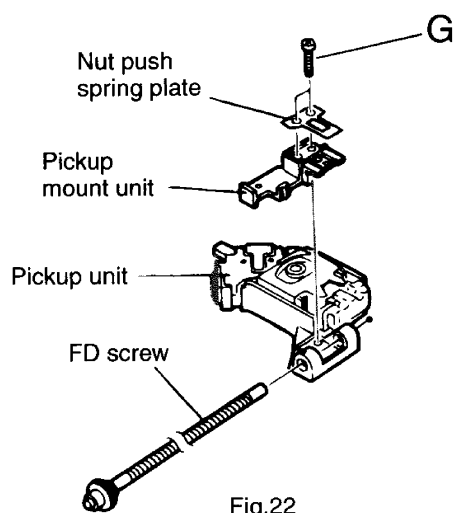

Fig.22
8. By removing the two screw G retaining the pickup unit, dismount the nut push spring plate and pickup mount unit (See Fig.22).
9. Remove the FD screw from the pickup unit (See Fig.22).